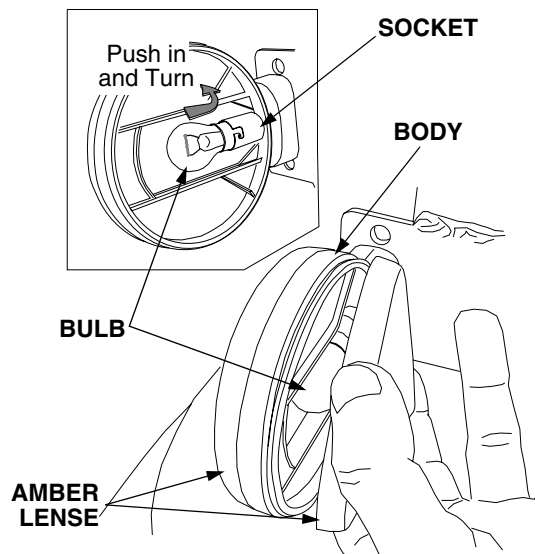

Figure 37
Flashing hazard lights are installed on each side of the ROPS. Referring to Figure 37, replace the bulbs as follows:
- Insert a **thin** bladed screwdriver, or similar tool, between an amber lens and the hazard light body, then twist to separate the lens from the body. Refer to Figure 37.
- Push the bulb inward and turn counterclockwise, then pull the bulb outward to remove from the light socket. Refer to Figure 37.